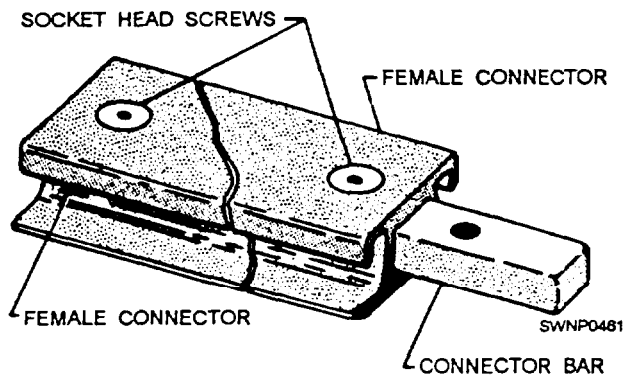

Figure 11-9.—Female keylock.
**FEMALE KEYLOCK.**— A female keylock (fig. 11-9) is used to join two adjacent male mats. The female keylock is coated with a nonskid material.